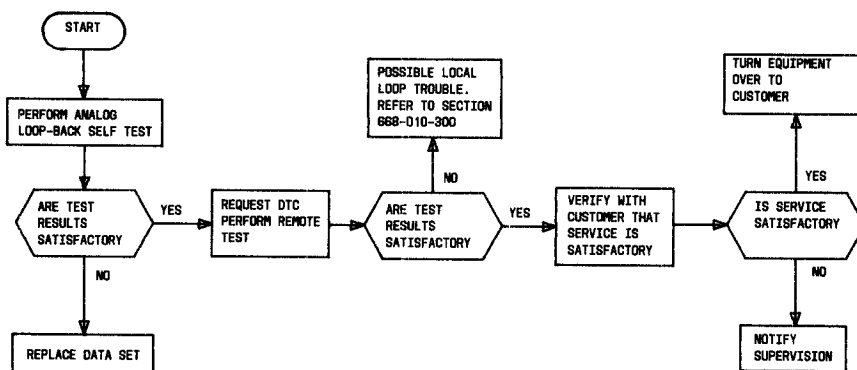

Fig. 1—Installation Test Sequence
**2.02** Before proceeding with the tests, verify that the local loop meets requirements specified for type 2 Dataphone® lines in Section 314-205-501. Refer to Fig. 1 for the installation test sequence.